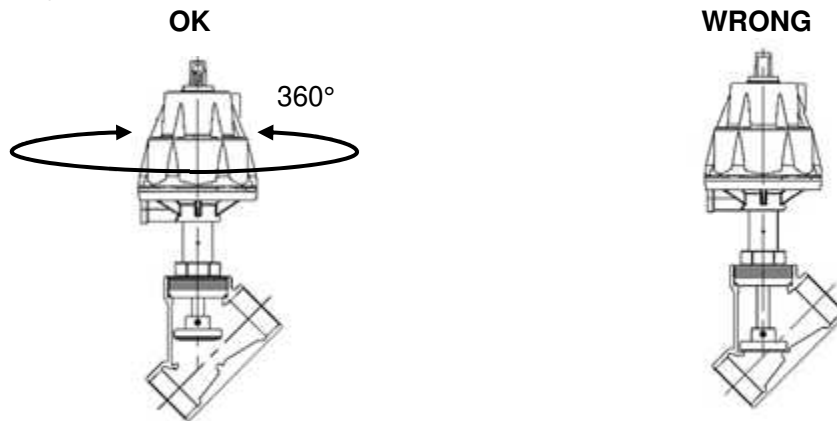

Fig. 7
15. To change the connection position of the pilot port, apply compressed air through the pilot port, let the valve disc rise (check the indicator rise), and then rotate the actuator. (See Fig. 7.) For the ASV-1000-C, rotate the actuator without applying compressed air.